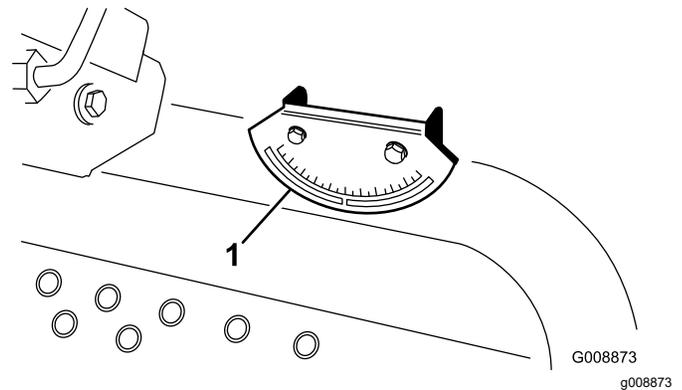

**Figure 6**
2. Verify that the machine is level by placing a handheld angle indicator (supplied with the machine) on the frame cross rail, by the fuel tank (Figure 6).